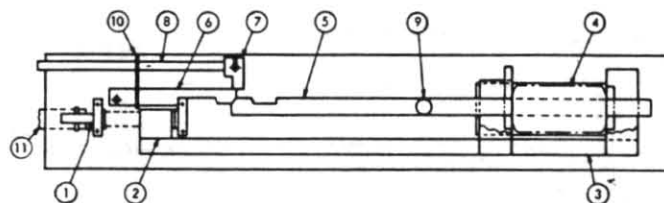

Fig. 22 - Switch in open position, with springs discharged.
The operator mechanism is a true stored energy device. Energy for closing and opening operation is stored separately from the closing or opening release action. See Figs. 22, 23 & 24 for relative positions of stored energy operator mechanism components during stages in the operating sequence.
Figure 22 shows the operator mechanism with switch blades open and springs discharged. Trip lever (8) is spring-loaded to hold locking lever (6) down. The locking lever blocks horizontal travel of spring shaft (5) to the left. The belleville springs (4) are now positioned between surfaces of the spring shaft (5) and the charging bar assembly (3). Counterclockwise rotation of the charging screw (1) causes the charging nut (2) to travel to the left, thus moving the attached charging bar assembly (3) to the left and compressing the springs. The charge check plate (10) is attached to the trip lever (8) and prevents downward travel of the trip lever until the charging nuts has traveled to the end of its charging stroke. This prevents operation of the switch unless the springs (4) are fully charged.